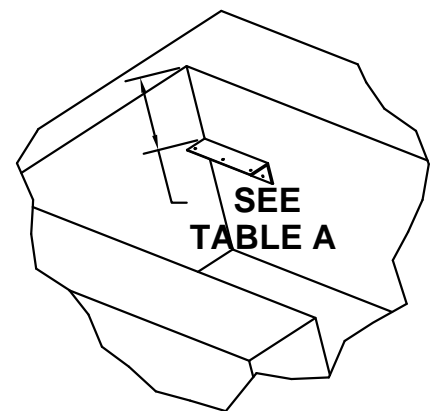

Figure 1 – Support Location
- a) Create a support structure. This can be the compartment floor or a 1-1/2" wide angle min. 10" long on both sides of opening. See Figure 1 and Table A for location.